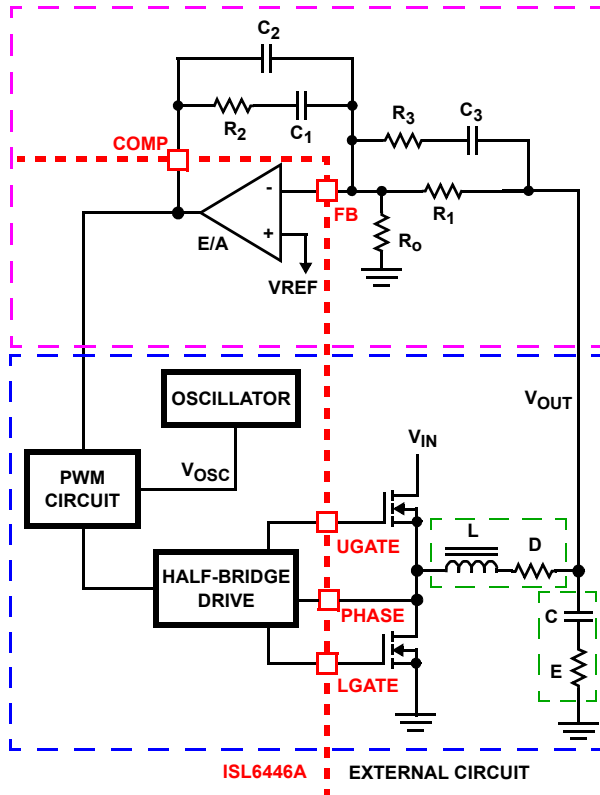

FIGURE 26. VOLTAGE-MODE BUCK CONVERTER COMPENSATION DESIGN
Figure 26 highlights the voltage-mode control loop for a synchronous-rectified buck converter, applicable to the ISL6446A circuit. The output voltage ( $V_{OUT}$ ) is regulated to the reference voltage,  $V_{REF}$ . The error amplifier output (COMP pin voltage) is compared with the oscillator (OSC) modified sawtooth wave to provide a pulse-width modulated wave with an amplitude of  $V_{IN}$  at the PHASE node. The PWM wave is smoothed by the output filter (L and C). The output filter capacitor bank's equivalent series resistance is represented by the series resistor E.
The compensation network consists of the error amplifier (internal to the ISL6446A) and the external  $R_1$  to  $R_3$ ,  $C_1$  to  $C_3$  components. The goal of the compensation network is to provide a closed loop transfer function with high OdB crossing frequency ( $F_0$ ; typically 0.1 to 0.3 of  $f_{SW}$ ) and adequate phase margin (better than  $45^\circ$ ). Phase margin is the difference between the closed loop phase at  $F_{0dB}$  and  $180^\circ$ . The equations that follow relate the compensation network's poles, zeros and gain to the components ( $R_1$ ,  $R_2$ ,  $R_3$ ,  $C_1$ ,  $C_2$  and  $C_3$ ) in Figure 26. Use the following guidelines for locating the poles and zeros of the compensation network:
1. Select a value for  $R_1$  ( $1k\Omega$  to  $5k\Omega$ , typically). Calculate the value for  $R_2$  for desired converter bandwidth ( $F_0$ ). If setting the output voltage via an offset resistor connected to the FB pin,  $R_0$  in Figure 26, the design procedure can be followed as presented in Equation 13.